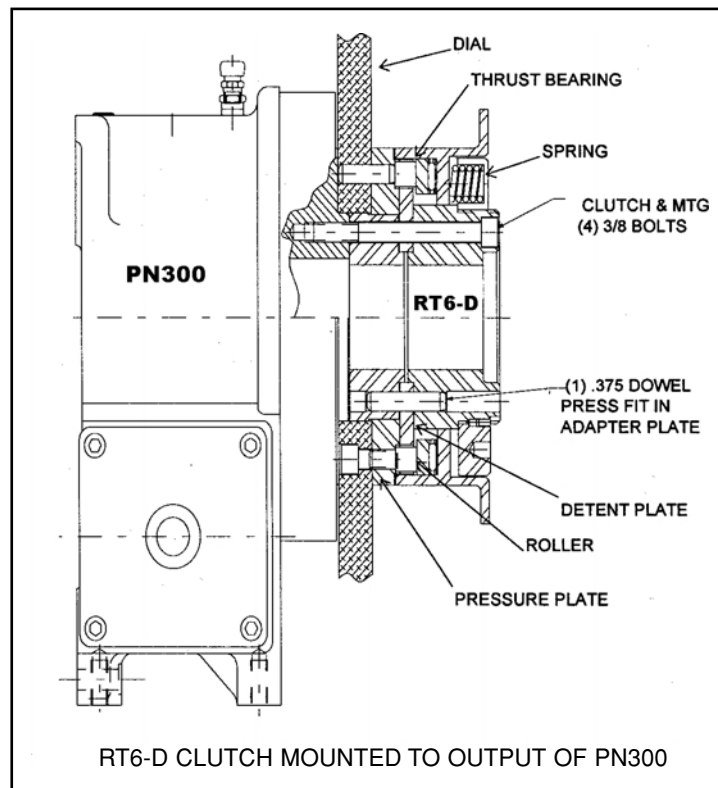
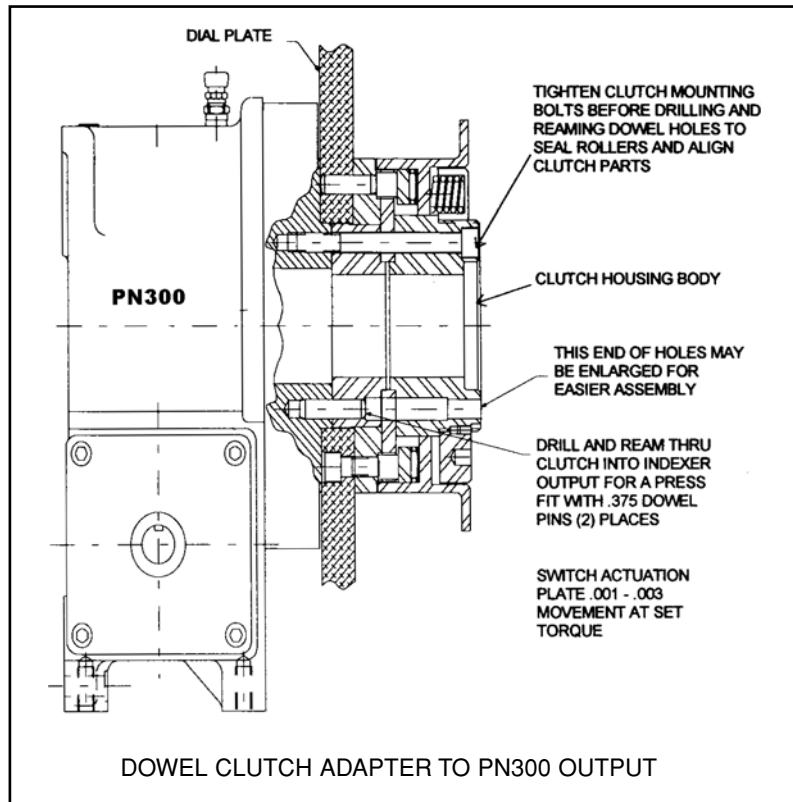

FIGURE 10
FIGURE 11
- 4.2.4.1. Assemble remaining RT6-D clutch parts to PN300 unit as shown in Figure 11 being careful to correctly align mounting holes in adjacent parts and rotating dial to cause all rollers to seat into a detent pocket. Coat thrust bearing and rollers with grease. (See Figure 10).
- 4.2.5.1. Drill and ream through clutch into Indexer output at (2) drilled holes put into Indexer in Step 1b for a press fit with .375 diameter dowel pins (2) places. (See Figure 11)